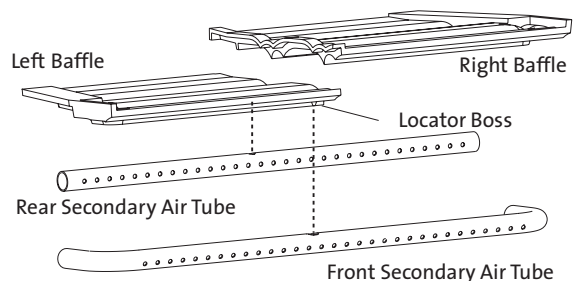

Figure 12.
The cast iron baffles must be removed to secure the draw-down adaptor to the firebox. The Left Baffle has two bosses cast into it that engage with corresponding holes in the air tubes to lock each tube in correct position. Use a flashlight to locate the bosses by lifting up on the Left Baffle. See fig. 12.
3. Attach the Leg plates. *The Legs must be oriented with the Hang Tabs on the inside edges as shown in fig. 12.* Use the two remaining M6 x 12 hex head flange bolts to attach the Legs to the Breastplate assembly.